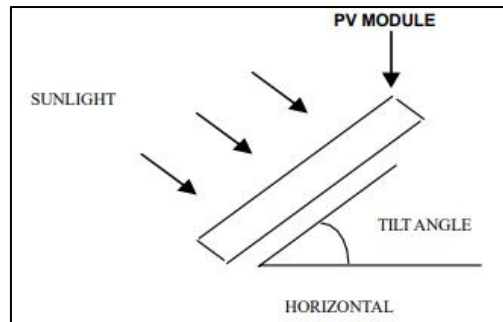

Figure 4 Tilt angle
- Installation inclination refers to the Angle between the solar photovoltaic module and the ground plane, as shown in Figure 4.